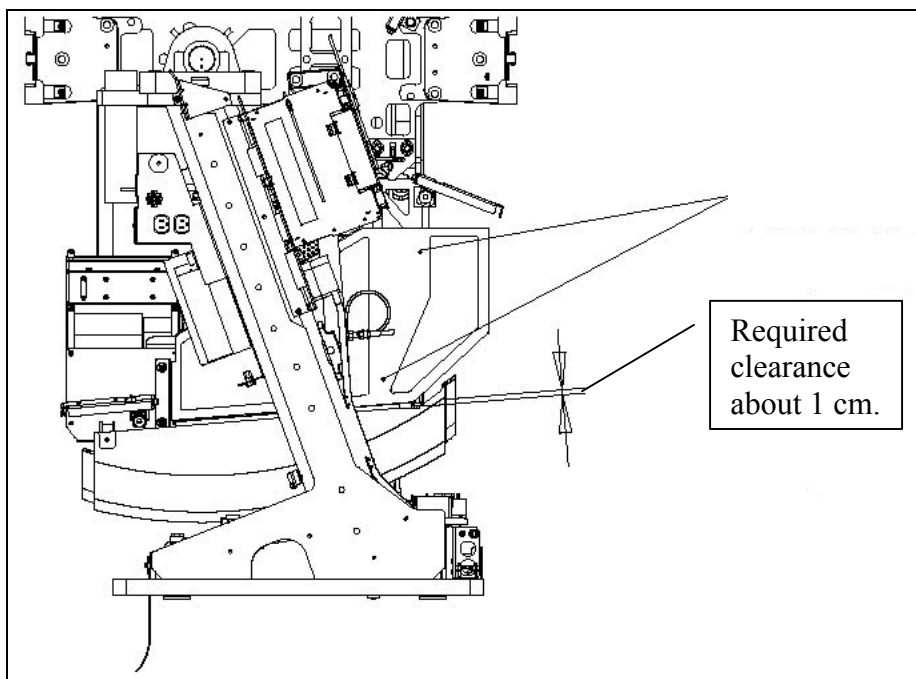

Figure 2. Right Side Panel Alignment
7. Loosely fasten two front screws (46-328417P12), two lock washers (46-328432P3), and two washers (46-328431P2) to the new holes at the front edge of the panel (see Figure 2).
8. Loosely fasten two rear screws (46-328417P12), two lock washers (46-328432P3), and washers (46-328431P2) to the new holes at the rear of the panel (see Figure 2).
9. Assure that the clearance indicated in Figure 2 (1 cm) is met before final tightening of the four screws.